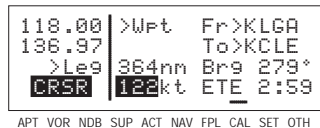

Figure 4-55
7. Select your estimated groundspeed for the trip. As you change it, the estimated time en route (ETE) calculation will be updated (figure 4-55).